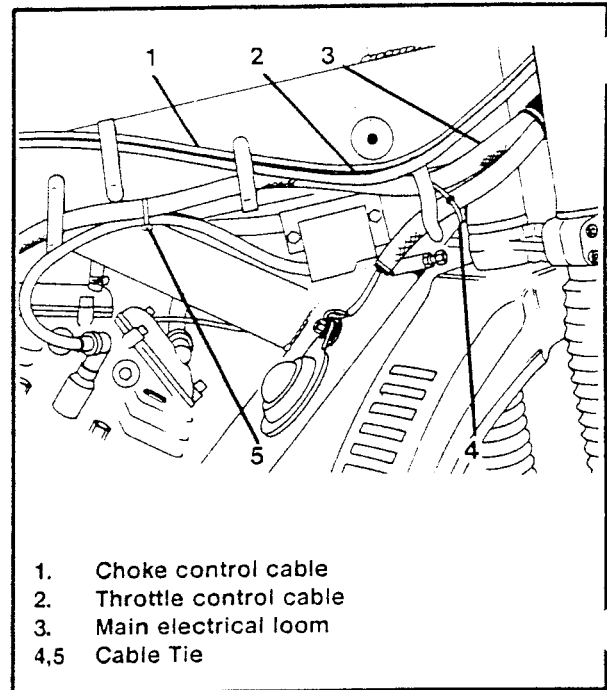

Figure 5-44. Cable Routing - RH Side
2. See Figures 5-44, 5-45. Route cables as shown.